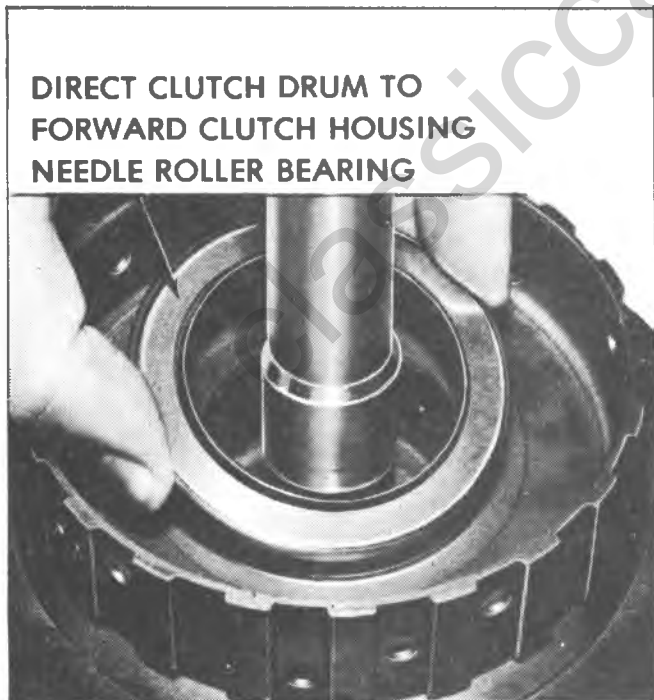

Fig. 71N--Direct Clutch Drum to Forward Clutch Housing Needle Roller Bearing
1. Remove direct clutch drum to forward clutch housing needle roller bearing (fig. 71N).